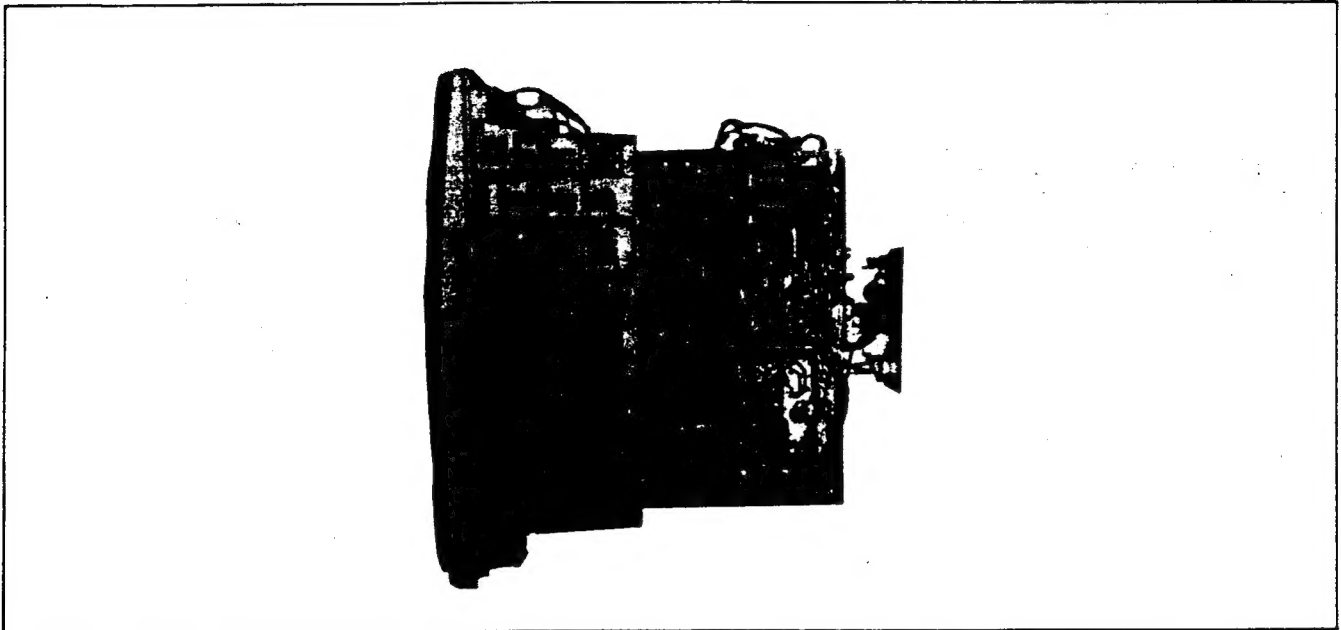

Fig. 6
2. Repairing of main chassis can be done easily, if stood as shown in Fig. 6.